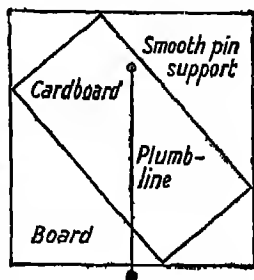

FIG. 179. Centre of gravity of a piece of cardboard.
**Expt. 235.** To find the centre of gravity of a rectangular piece of cardboard. Make a small hole anywhere near the edge of the cardboard and suspend it by means of a smooth pin or nail through the hole. Use a plumb-line in the way shown in Fig. 179 to draw on the cardboard a vertical line through the point of suspension. Now suspend the cardboard from another position near the edge and draw another line. The centre of gravity is at the intersection of the two lines. Test by trying to balance the cardboard on a pencil point. If you suspend the cardboard from many points all the lines should pass through the same point. They will probably not do this exactly, but by careful work they may be made to do so very nearly.